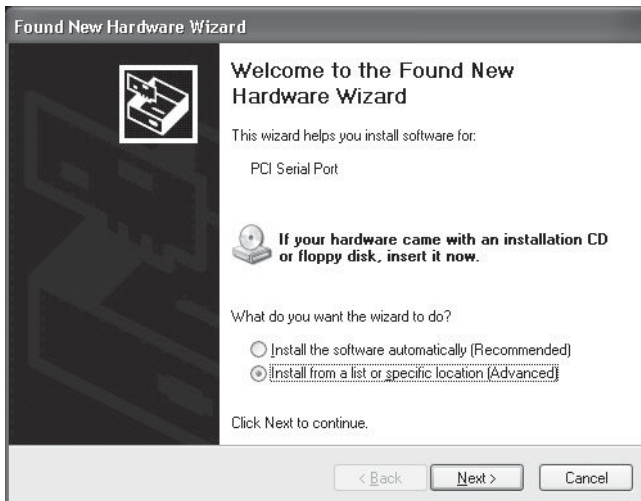

Figure 9
2. Select “Install from a list or specific location (Advanced)” and then click Next>. Refer to Figure 9.